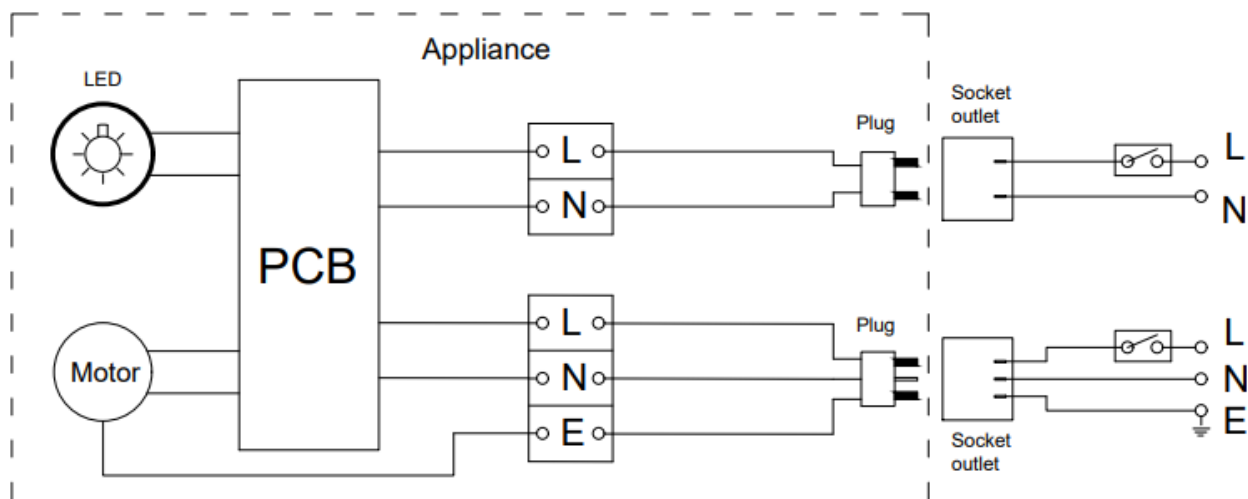

Fig. 3
- Before installation, check the installation location in the ceiling has access to 2x socket outlets which are connected to a wall switch(es). If it does not, please contact a licensed electrician to arrange installation of the socket outlets and wall switch(es) before continuing. Refer to the circuit diagram section for more information. (Fig.3)